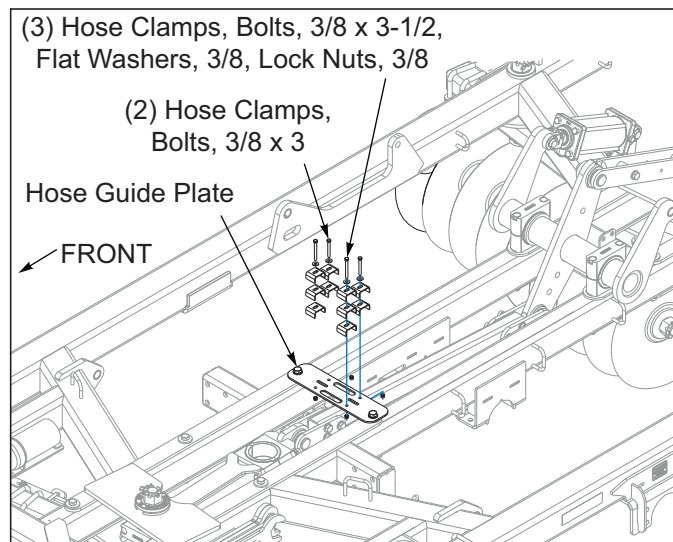

Figure 3-13: Hose Guide Plate 7531-23'-29'
7. The hose guide plate will be factory installed on models 23'-29'. Install (3) hose clamps to the front holes of hose guide plate with 3/8 x 3-1/2 bolts, 3/8 flat washers and 3/8 lock nuts **See Figure 3-13**. Install (2) hose clamps to the rear holes of hose guide plate with 3/8 x 3 bolts, 3/8 flat washers and 3/8 lock nuts. Do not tighten hose clamp bolts until hoses are run through hose clamps.